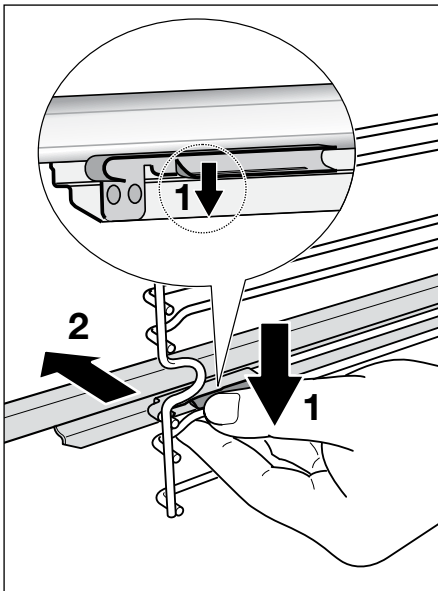

Fig.45 Removing the sliding shelf supports
- 3 Find the safety locks. These are the tabs that clip over the wire of the side rack (arrow 1 in Fig. 45).
- 4 Pull the safety locks away from the wire to release the wire (arrow 2 in Fig. 45).